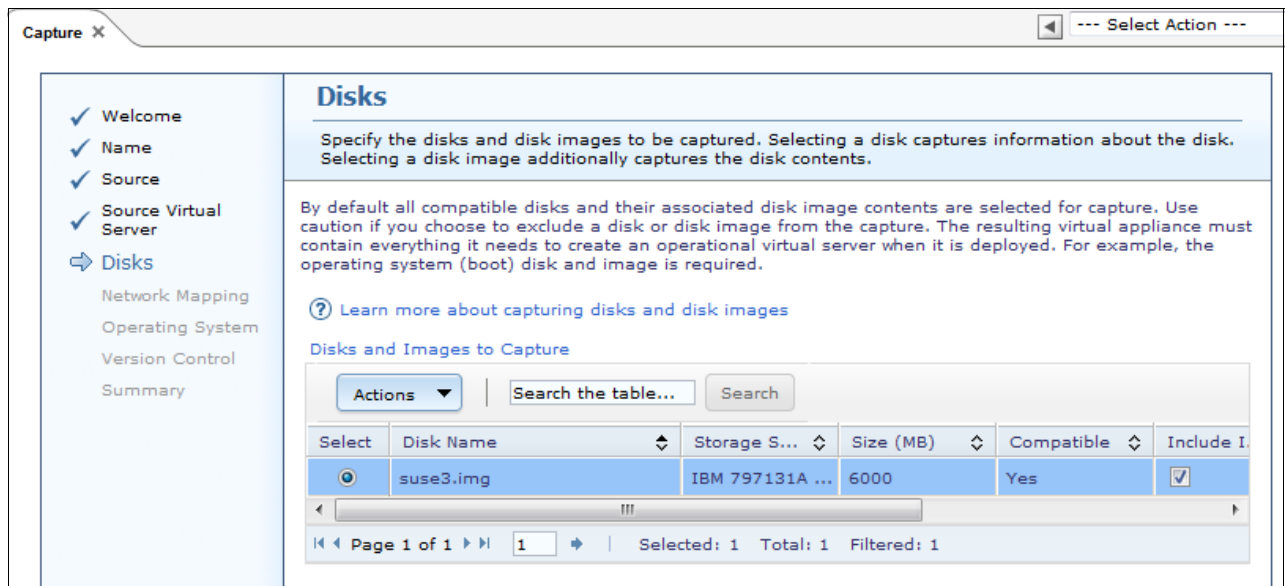

Figure 3-83 VMControl Capture wizard: Disks
16. In the Disks window, specify the virtual appliance disk settings, as shown in Figure 3-83. Click **Next**.